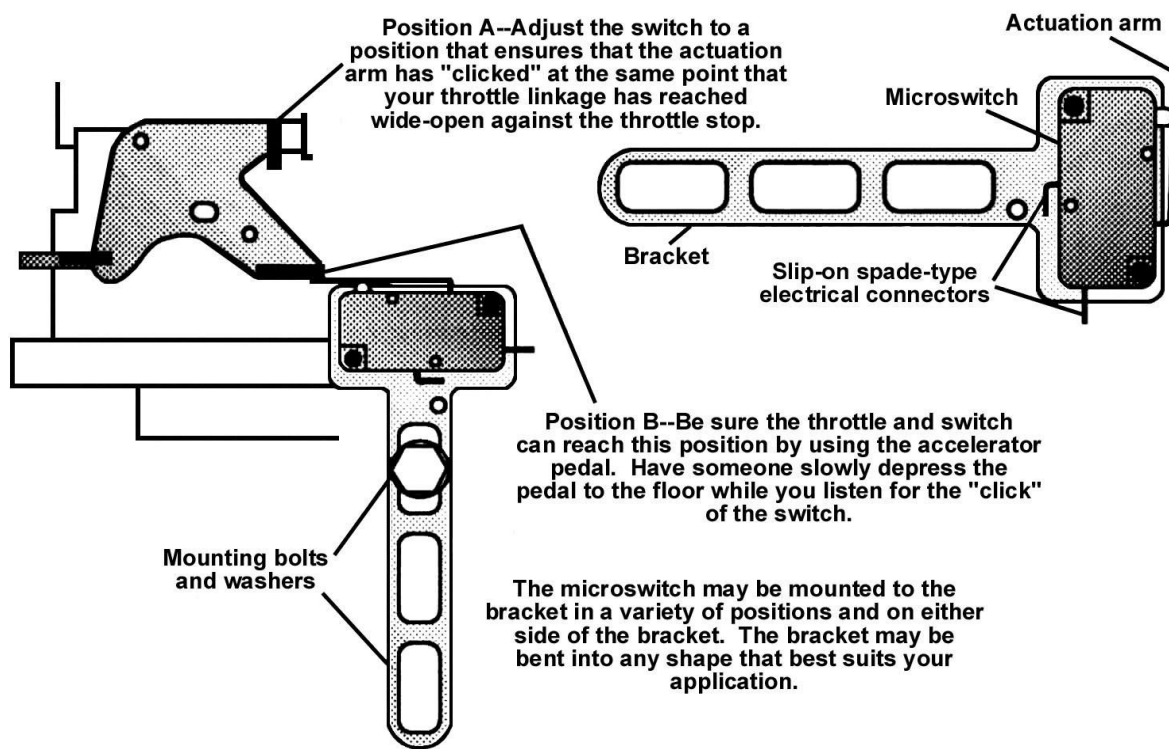

Figure 8 Microswitch Mounting
- B. Adjust the microswitch to trigger at wide-open throttle by adjusting the microswitch's position to ensure the actuation arm of the microswitch "clicks" at the same point your throttle linkage reaches wide-open throttle against the throttle stop (Figure 8, Position A).
- C. Ensure that the throttle and switch can reach the activation position, as shown in Figure 8, Position B, by using the accelerator pedal. Have an assistant slowly press the pedal to the floor while you listen for the "click" of the microswitch.